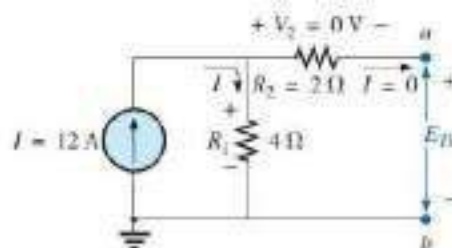

FIG. 9.35
Step 4: See Fig. 9.35. In this case, since an open circuit exists between the two marked terminals, the current is zero between these terminals and through the 2 Ω resistor. The voltage drop across *R*₂ is, therefore,